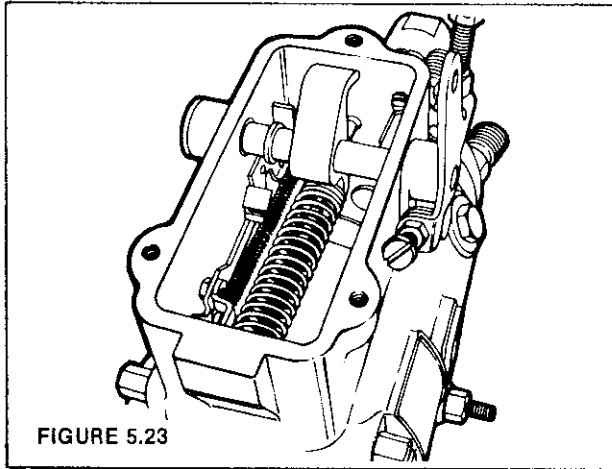

FIGURE 5.23
STEP 23 Compress both sides of the throttle and shutoff shaft and install a new shutoff cam and/or a new throttle shaft retainer clip as needed with the straight inner edge engaging the slot. The cam or clip should snap into position when installed correctly (Figure 5.23).